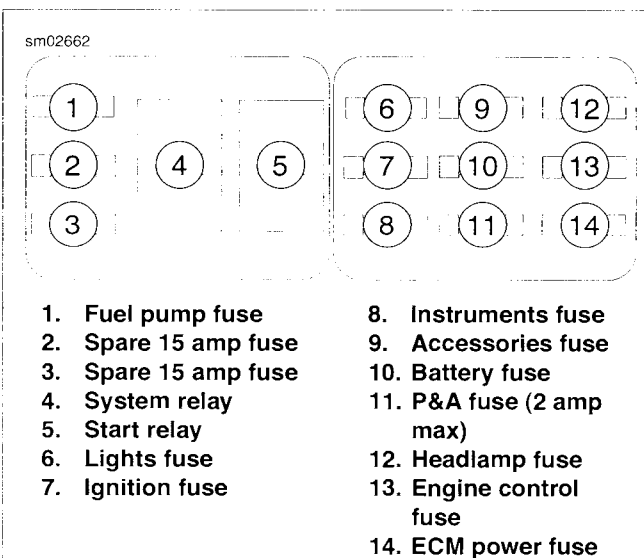

Figure 7-13. Fuse Block: Top View
4. See Figure 7-13. Replace suspect fuse.